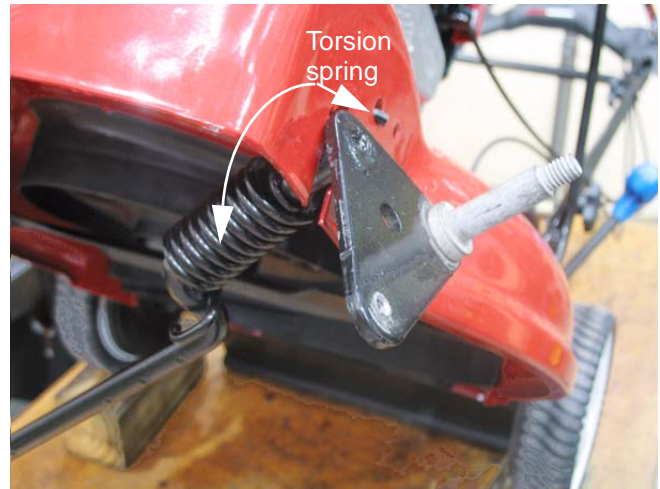

Figure 2.7
6. As the flanged hex bushings are released from the deck shell, the axle will come free of the shell. Maneuver the front axle to unhook the torsion spring from the deck shell. See Figure 2.7.